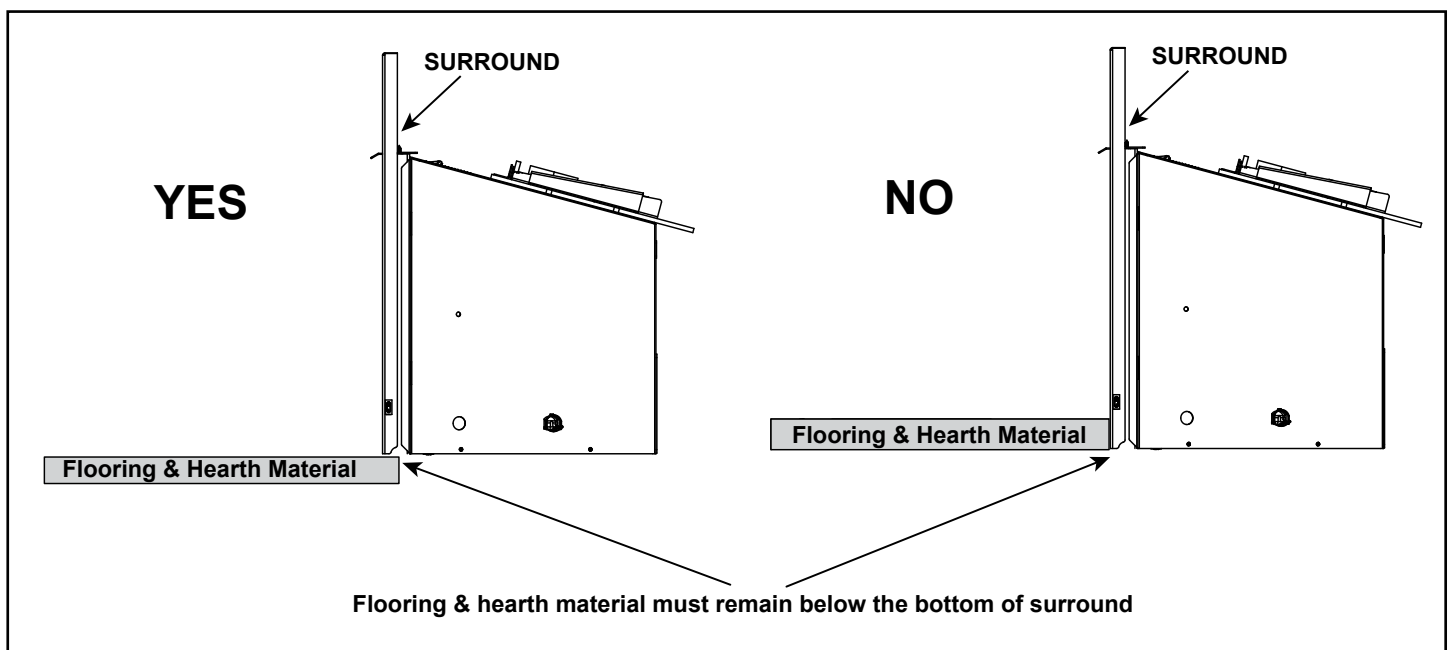

Figure 3.16 Flooring & Hearth Material
- All flooring and hearth material must remain below the bottom of the surround. See Figure 3.16.